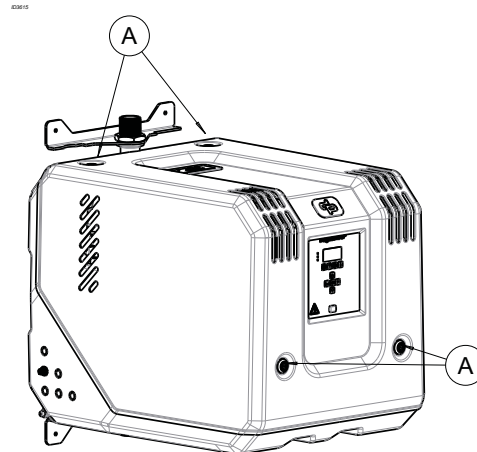

Figure 9: Disassemble the hood
- Loosen the 4 locks (A) see fig. 9 Disassemble the hood;